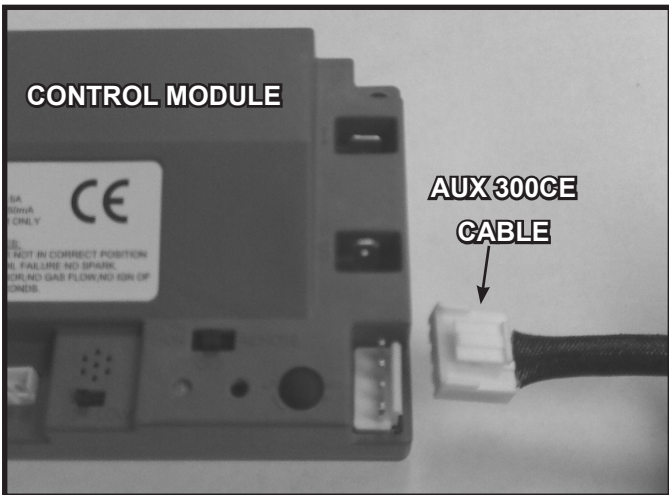

Figure 12.8 AUX 300 module installation
- Insert the 4 hole harness from the AUX300CE module into the 4 pin plug on the control module. See Figure 12.8.